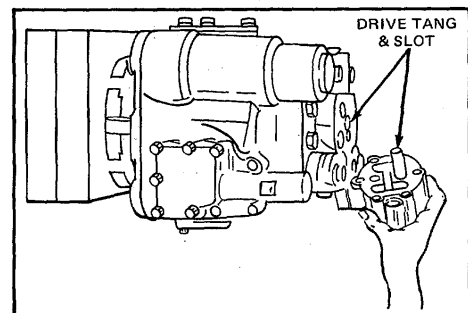

Figure 3.
2. Line up the drive tang on charge pump shaft with slot in main pump shaft (refer to Fig. 3). The charge pump should assemble freely with main pump freely. Do not force charge pump into position.